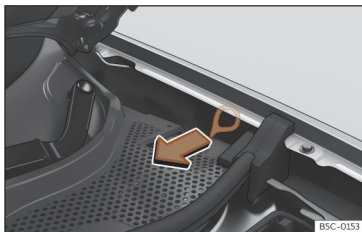

Fig. 201 Between the left wing panel and the engine bonnet hinge: Charging connector manual release mechanism puller.
The puller for the manual release mechanism is on the left hand side of the engine compartment, above the charging socket »» **Fig. 201**.
- Pull the puller»» **Fig. 201**.